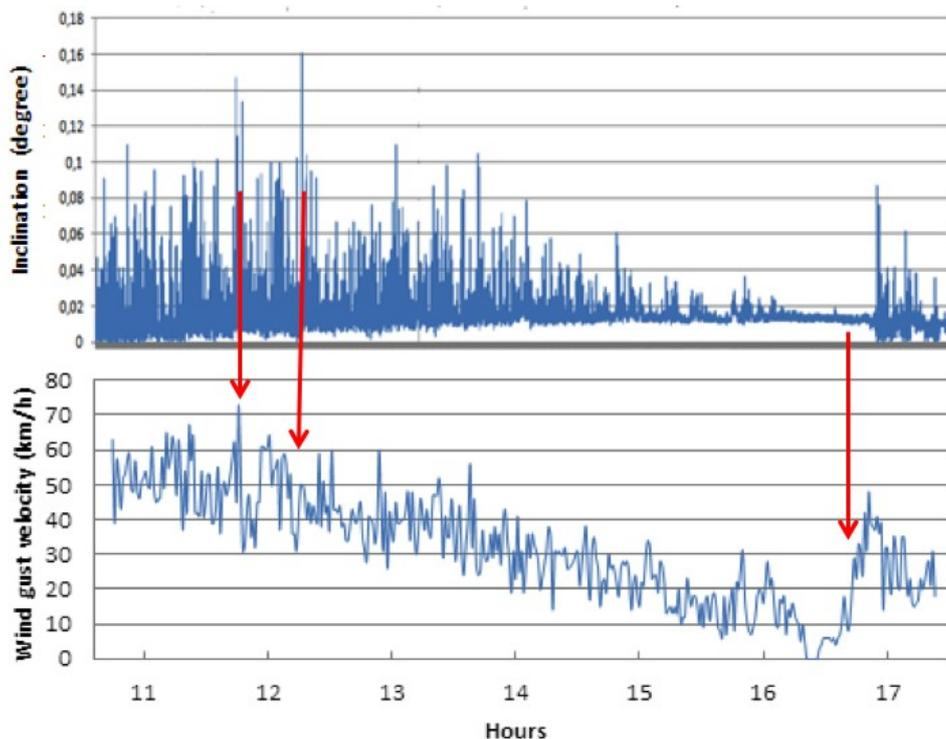

Figure 2: Time series plot of inclination and wind velocity
2. As a result, there is no direct relationship between the wind load (wind velocity) and the immediate response of the tree, i.e. no correlation between the load and the inclination of the trunk (see Figure 2).